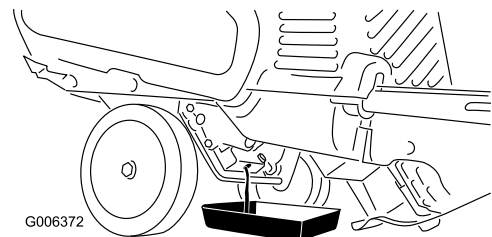

Figure 28
3. Place an oil drain pan under the oil drain plug, remove the oil drain plug, and tip the machine backward and drain the used oil in the oil drain pan (Figure 28).